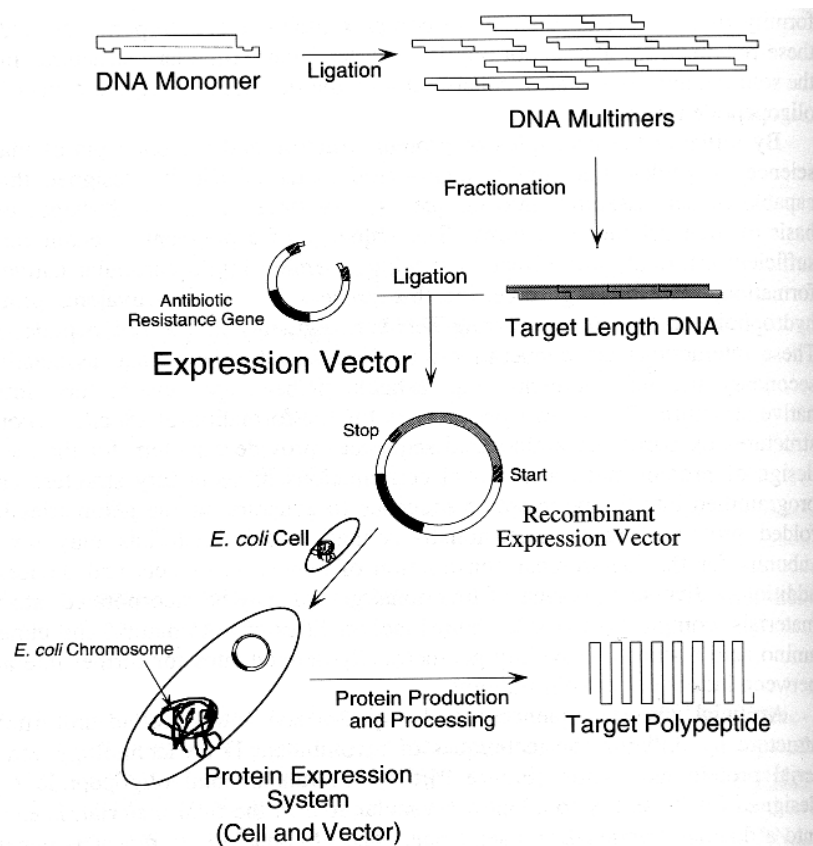

**FIGURE 1.** Schematic representation of protein biosynthesis from a DNA template. Reproduced with permission from King, J., *Chem. Eng. News* 32, April 10, 1989.
Fig. 1 Schematic illustration of the procedure for mCP. An elastomeric stamp is made by casting a prepolymer of PDMS against a master that is usually made by microlithographic techniques. The stamp is inked with a solution of hexadecanethiol in ethanol, dried in a stream of  $\text{N}_2$ , and then brought into contact with the gold surface. The patterned SAMs can be used as resists in wet chemical etching to transfer patterns to the Au film.
**Fig. 1 p. 374**
FIGURE 1. The scale of the smallest things built using the top-down approach of the electronics industry is approaching the scale of the largest molecules built by the bottom-up approach of chemistry. (See color plate.)